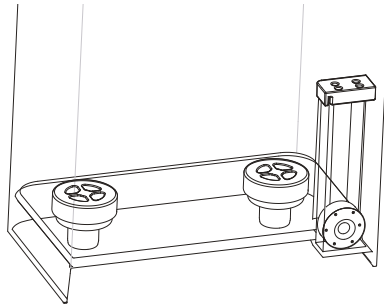

Figure 2.7
c. After cleaning, insert the floating ball into the groove. Then close the floating ball silicone cover and filter screen covers tightly, as shown in the figure. [Figure 2.7]